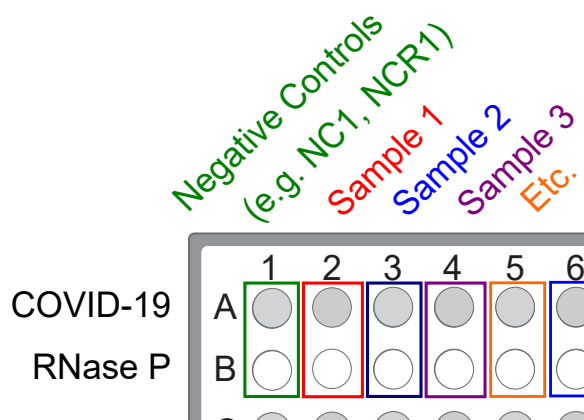

Figure 4 Paired sample and Negative Control wells for each assay
- b. Unseal the extraction plate, then add the first Negative Control from the single well of the extraction plate to wells A1 and B1 of the reaction plate, as shown in Figure 4 on page 60.